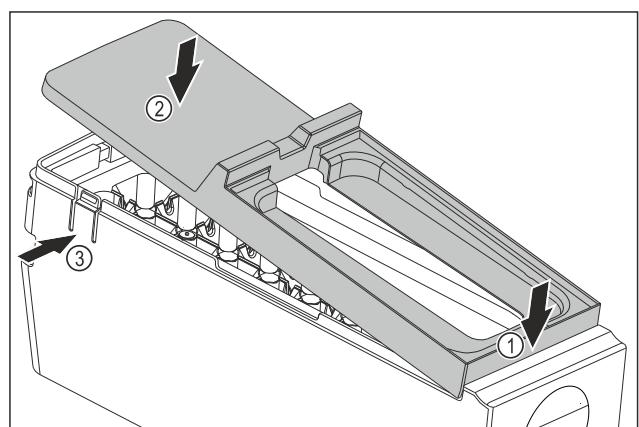

Fig. 80
- ▶ Installing the EasyTwist-Ice body cover: Place the cover on the front. Fig. 80 (1)
- ▶ Lower the cover at the rear. Fig. 80 (2)
- ▶ The cover locks into both tabs Fig. 80 (3) audibly.